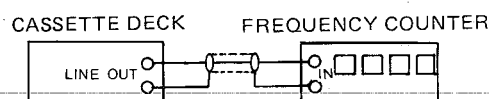

FIG. 1
- 2) CONNECT MEASURING EQUIPMENTS AS FIGURE 1.